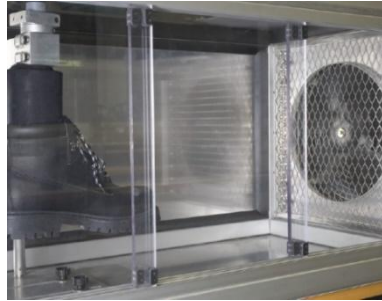

Figure 1: Thermal Insulation Test Chamber with Specimen
- Available SATRA thermal insulation test chamber (see Figure 1).